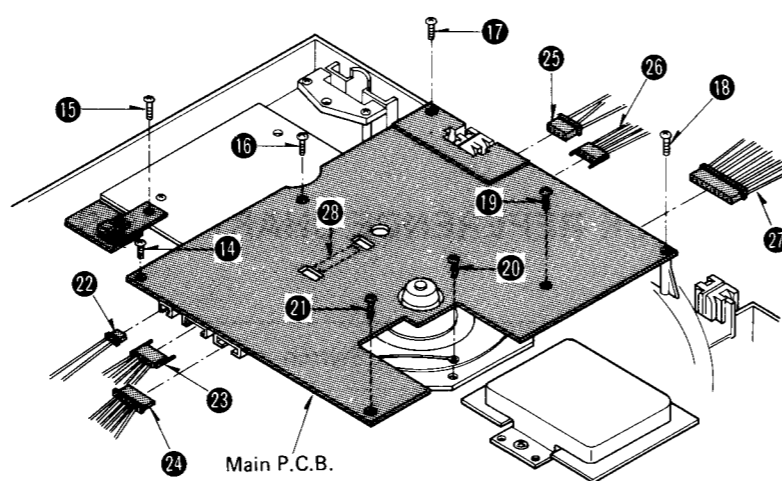

Fig. 3
5. Remove the main P.C.B. setscrews ⑭ ~ ⑳ and connectors ㉒ ~ ㉗. Then the main P.C.B. can be removed. (See Fig. 3)
*When installing the main P.C.B. onto the main body, make sure that the connector ㉘ (CN102) is engaged with the stator frame pin. (Fig. 3)